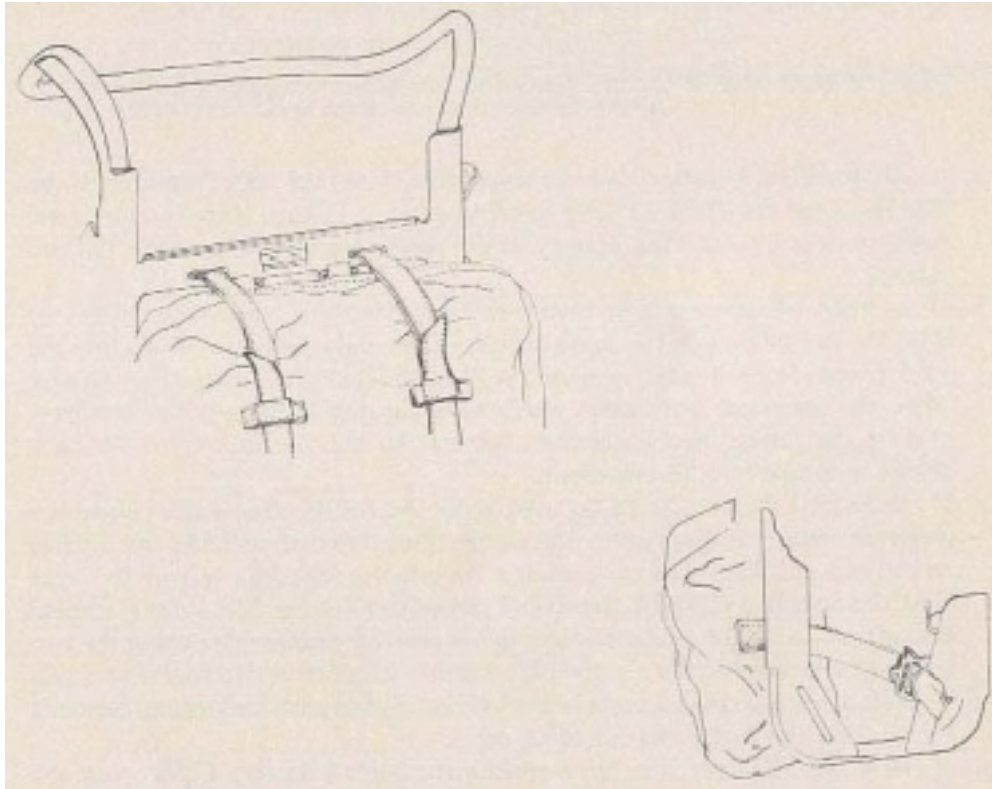

Figure 7. Attaching Field Pack to Pack Frame
F. The field pack is attained to the rear and bottom of the pack frame. Refer to Figure 7. Place the metal rings, on rear of field pack, over the two hooks on the rear of the pack frame. Insert the webbing straps, on the field pack, through the openings near the hooks, through the buckles, and pull tight. Secure the bottom straps on the field pack through the openings on the bottom of the frame, and pull tight.